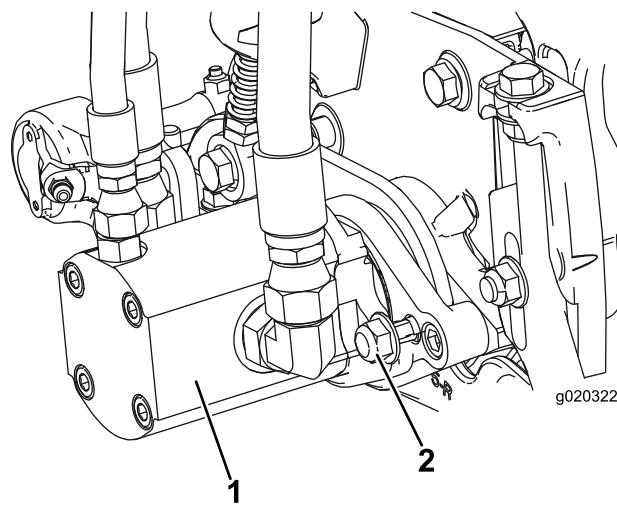

Figure 13
16. Install the motor by rotating it clockwise so that the motor flanges clear the locknuts (Figure 13). Rotate the motor counterclockwise until the flanges encircle the nuts, then tighten the nuts.